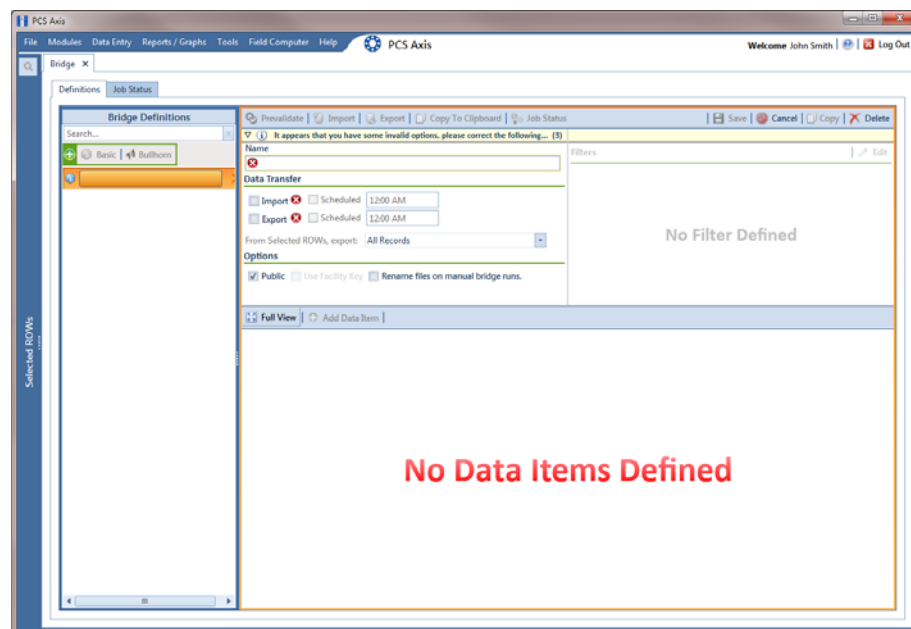

Figure 10-48. Basic Definition Panel
- 2 Click **Tools** > **Bridge** to open the *Bridge* window. Then click  **Basic** to open the basic definition panel (Figure 10-48).
- 3 Type a unique name for the Bridge definition in the **Name** field (Figure 10-48, page 473).